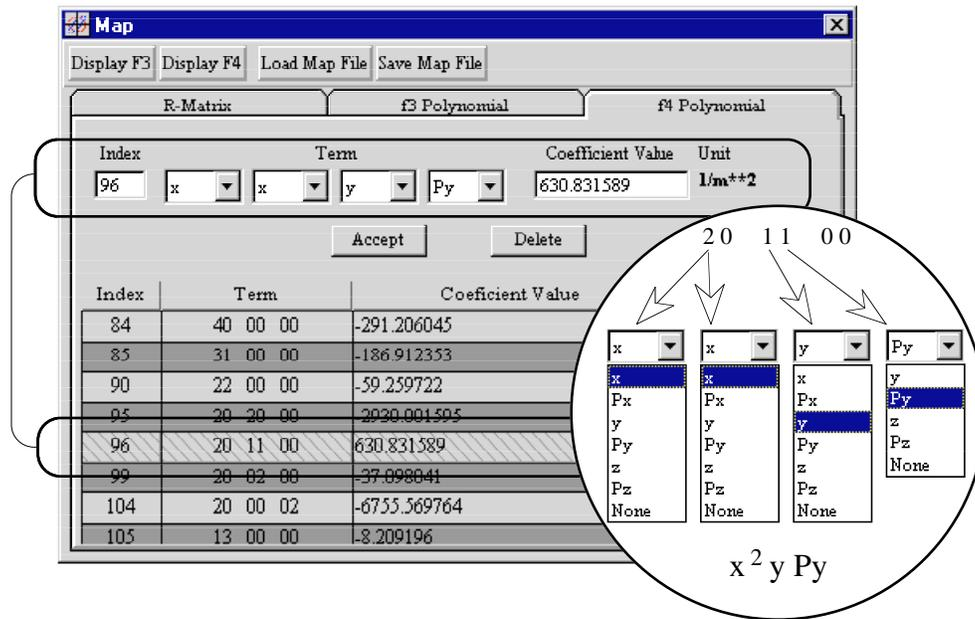

Figure 10 Map Piece Window - f_4 Polynomial Terms..
Figure 10 illustrates an example for the “ x^2yPy ” polynomial term (index 96). The first and second pop-ups are set to “x”, representing x^2 , the third pop-up is set to “y” so the fourth pop-up can only contain {y,Py,z,Pz and None}. If “z” was selected then the fourth pop-up would contain {z, Pz and None}. These pop-up selections define the MARYLIE term code (20 11 00), which in turn has an associated index (96), which together identify a particular polynomial term “ x^2yPy ”.